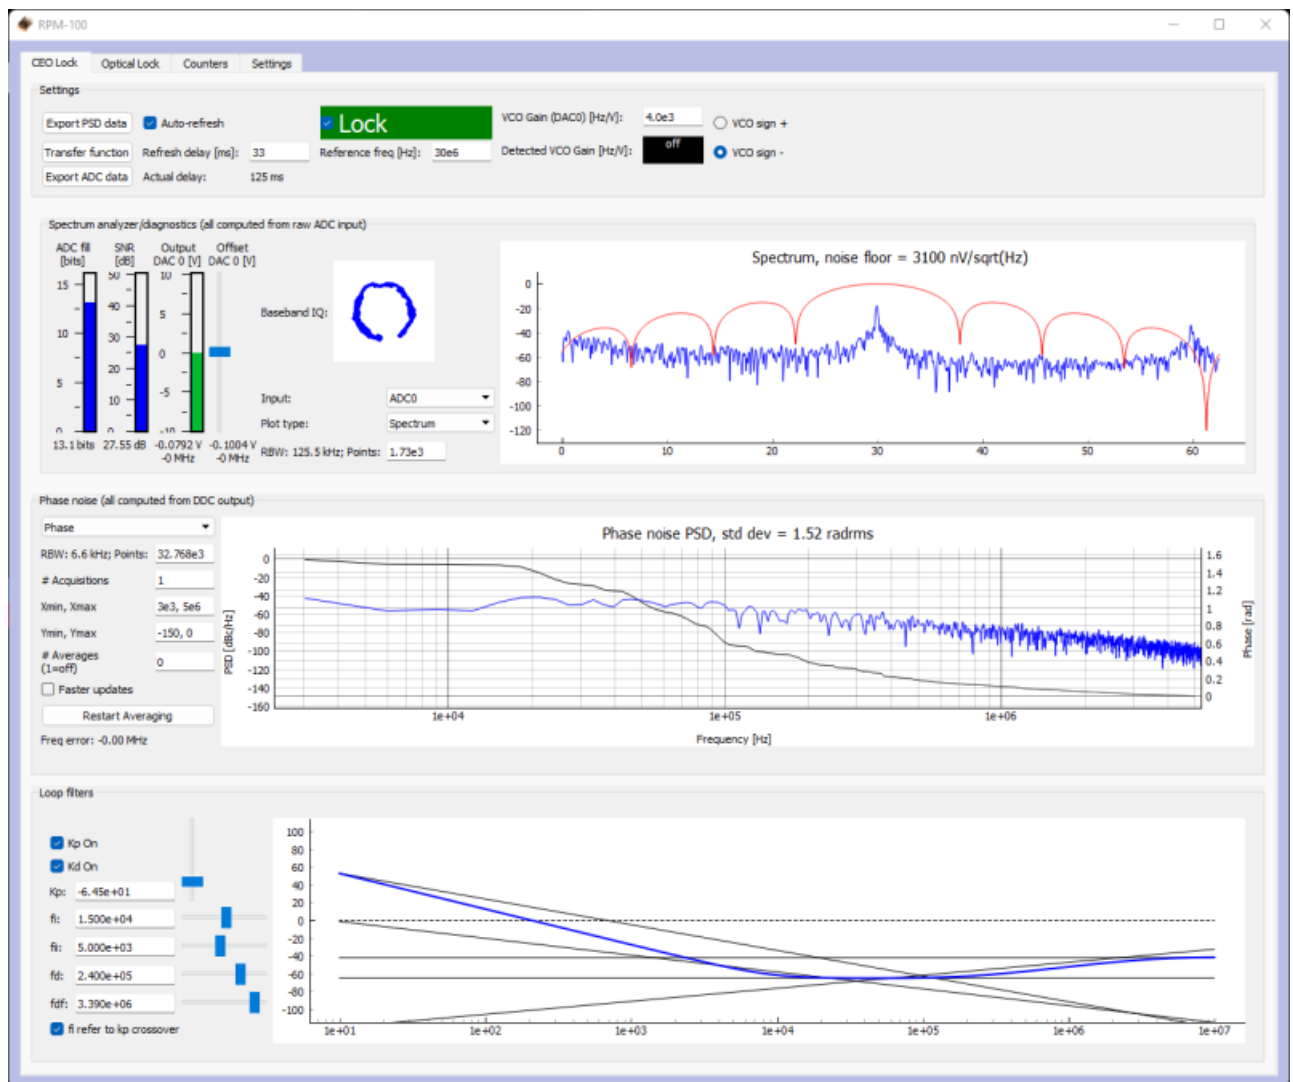

Fig. 10: Locking $f(\text{CEO})$
2. Press the "Lock" button (figure 10, top middle). If the system doesn't lock, change the VCO sign to the opposite polarity (top right) and try again. If the system still won't lock, try lowering the K_p value (bottom left).